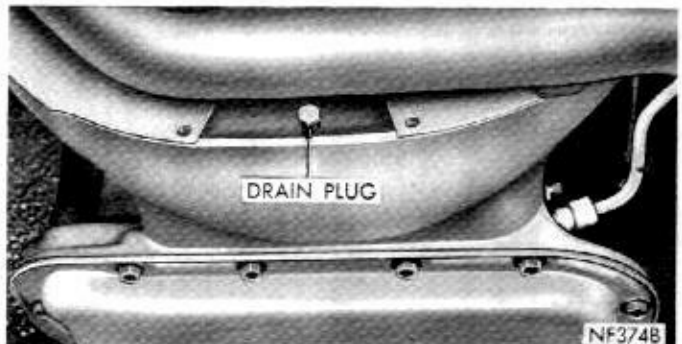

Fig. 4—Converter Drain Plug
(1) Raise vehicle on a hoist. Place a drain container with a large opening, under transmission oil pan.
(2) Loosen pan bolts at one corner, tap the pan to break it loose allowing fluid to drain, then remove the oil pan.
(3) Remove access plate from in front of converter, remove drain plug allowing fluid to drain (Fig. 4). Install and tighten converter drain plug to 110 inch-pounds, and install the access plate.
(4) If necessary, adjust the reverse band.
(5) Install a new filter on bottom of the valve body,